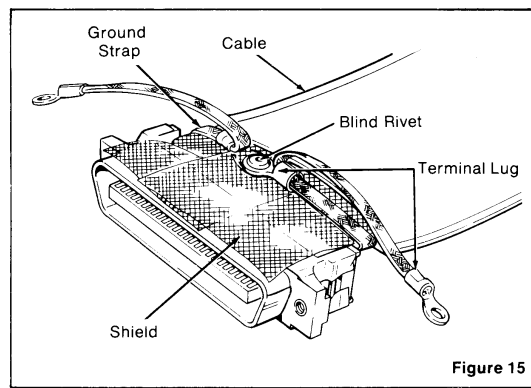

Figure 15
- Attach an $\frac{1}{16}$ " (4,3 mm) braided ground strap to the shield by blind riveting the shield between a piece of folded-over copper foil tape, 3M #D-01-103, and the two terminal lugs fastened to the braid. (Figure 15)